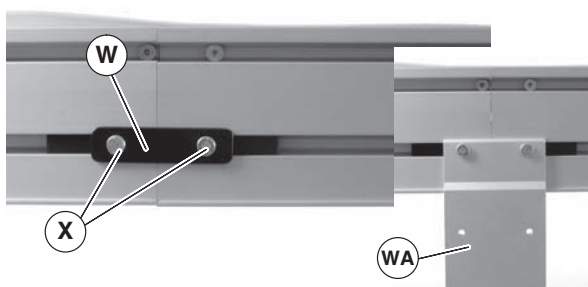

Figure 8
4. Join conveyor sections and install connector brackets (Figure 8, item W) or connector/mount brackets (WA) and screws (X) on both sides as indicated. Tighten screws to 60 in-lb (7 Nm).